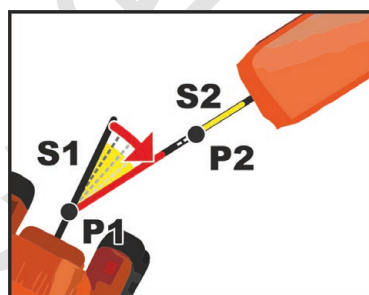

Fig. 34
**4** Drive along a straight path until the steering angle S1 of the tractor is also null (Fig. 34).